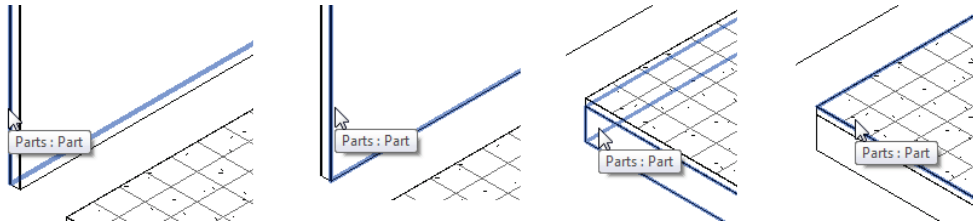

Figure 5
5. Move your mouse around the edges of each element to pre-highlight the new Parts. Notice that each layer of the Wall and Floor structure is now a separate Part (see Figure 5).